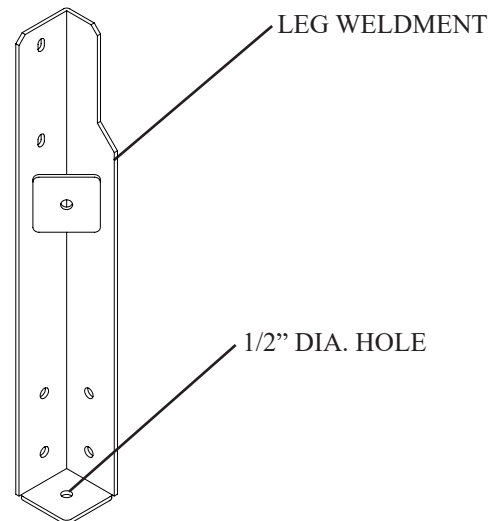

FIGURE 2
3. If the wheel kit is not included, each leg should be bolted to the ground using the 1/2" diameter hole provided in the base plate of each leg (see Figure 2).